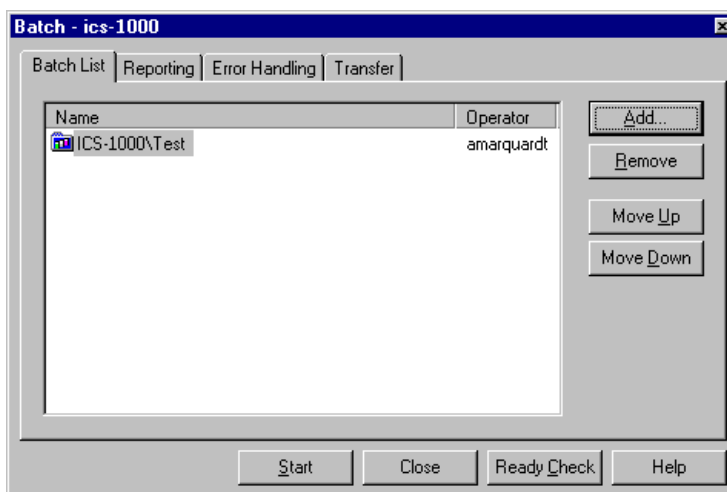

Figure 3-11. Batch Dialog Box with an Example Sequence Added to the Batch List
- Click the **Add** button on the **Batch List** tab and add the sequence you created in Step 2. See Figure 3-11 for an example.